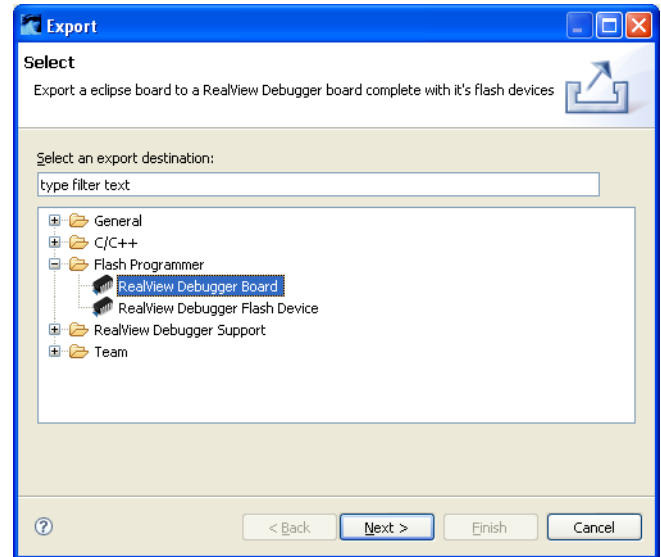

Figure 6-16 Export RealView Debugger Board
1. Select **Export...** from the **File** menu and then select **Flash Programmer** → **RealView Debugger Board**, see Figure 6-16. Click on **Next**.